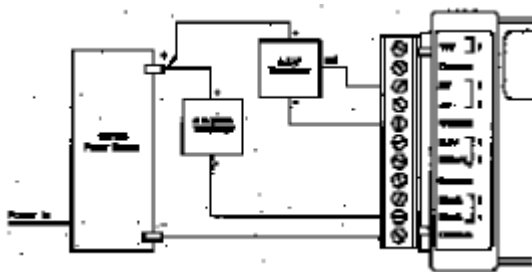

Figure 7-2: Transducer Power Supply Connection
5. Decide how you are going to power your transducers (if required). You can, for example, use a standard power supply and create a circuit like that shown in Figure 7-2.